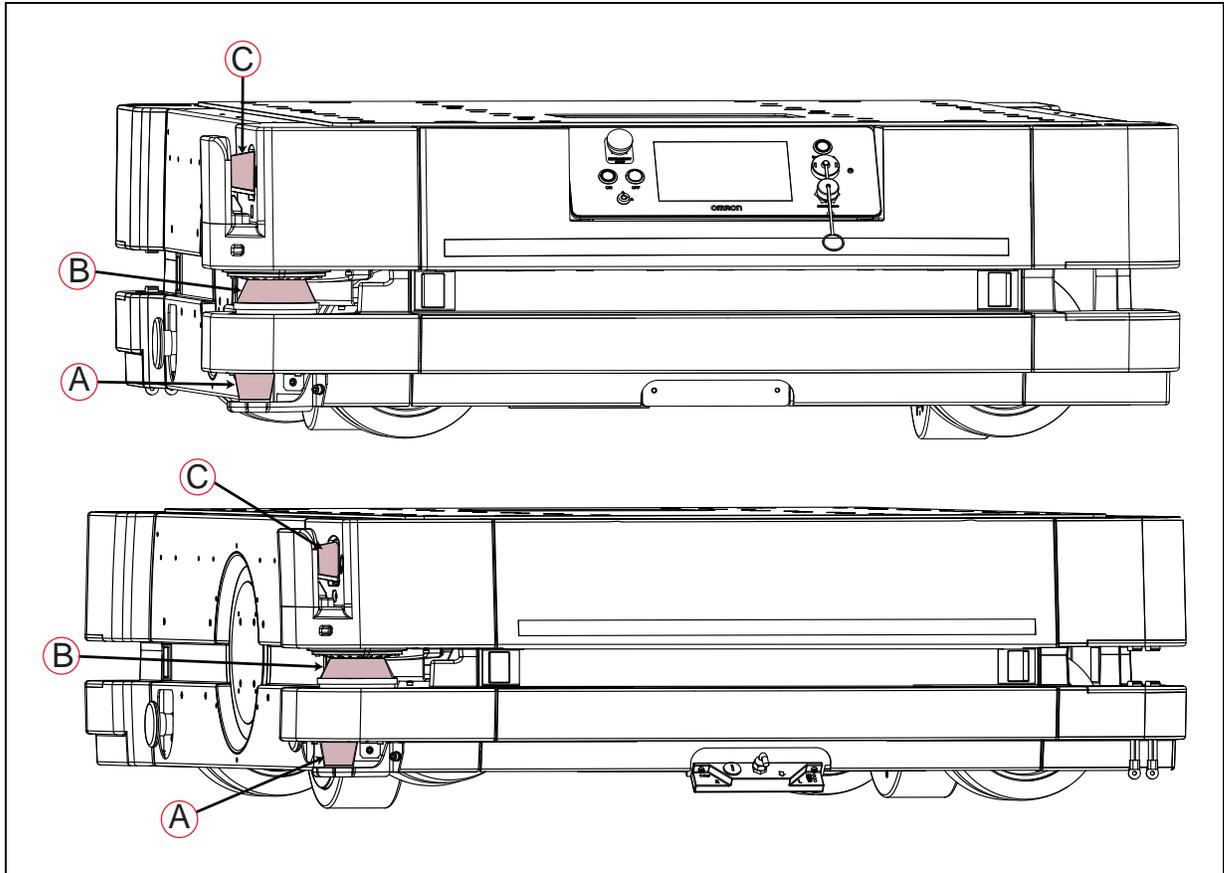

Figure 7-28. HD-1500 Lasers, (A) Low Lasers, (B) Safety Scanning Lasers, and (C) Side Lasers
The HD-1500 platform has four lasers for navigation and safety; two installed in the front and two in the back. See: Figure 7-28. Optional side lasers ((C) in Figure 7-28.) are also available and may be purchased as peripheral devices. See: Side-Mount Lasers on page 268.
Each safety scanning laser ((B) in Figure 7-28.) provides readings in a 270° field of view, with a typical maximum range of 30 m. With the two safety scanning lasers each covering a 270° field of view, the HD-1500 has a full safety coverage of 360°. The lasers operate in a single plane, positioned at 175 mm above the floor.
The two low lasers ((A) in Figure 7-28.) detect obstacles below the scanning plane of the safety scanning laser, such as an empty pallet or fork truck tines, which are too low for the safety